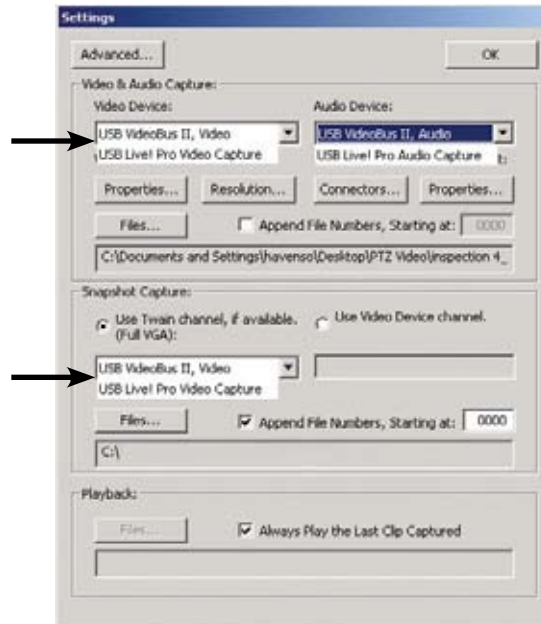

Figure 7
- Select Video Capture Options from the **Settings** dropdown menu on the iVIEW Remote software interface (**Figure 6**). A settings control window will appear (**Figure 7**).
- Using your mouse, click the arrow to the right of the **Video Device** selection box (**Figure 7**). Select either USB VideoBus II, Video (for Belkin USB VideoBus II) **OR** USB Live! Pro Video Capture (for GrabBee USB A/V Grabber) from the resulting drop-down list. Use the same procedure to select USB VideoBus II, Audio **OR** USB Live! Pro Audio Capture for the audio device.
Note: The iVIEW Remote program properties must be changed to accommodate a PAL Ca-Zoom PTZ system. To do this, access the Properties button in the Settings window (**Figure 7**), use the drop down menu to select PAL. Please restart the software after switching between NTSC and PAL video standards.
- Select the **Files...** button on the Settings window (*Figure 7*) and select the file that you would like to playback. Alternatively you can select the Always Play the Last Clip Captured option.
The Advanced Settings window allows the user to customize iVIEW Remote to best fit the user's needs. To access the Advanced Video Settings, press the Advance button in the Settings window (*Figure 7*).
- Make sure your settings are configured correctly, as indicated in *Figure 7*.
- The frame rate is number of frames or images that is projected or displayed per second. The higher the frame rate, the smoother the video stream or playback. Conversely lower frame rates will result in choppy video stream or playback. To correct this problem, adjust the frame rate to a higher value. Click on the **Resolution** button from the Settings window (*Figure 7*). Change frame rate value by clicking the arrow-up button.